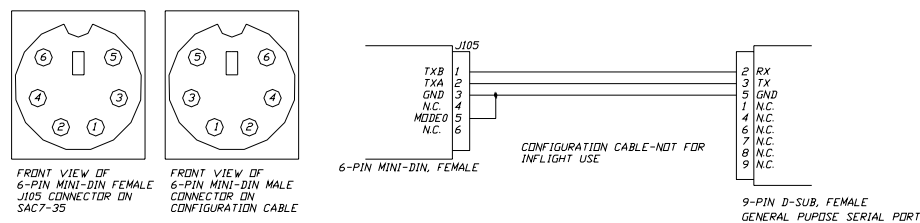

Figure 4-1
**Note: You can purchase a 9 Pin to Din adapter locally, use the supplied Sandia Adapter or build your own using the diagram in Fig. 4-1**